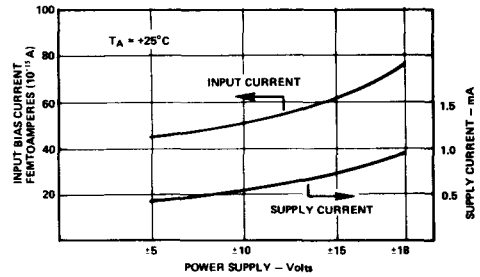

Figure 8. Input Bias Current and Supply Current Versus Supply Voltage
- The heat dissipation can be reduced initially by careful investigation of the application. First, if it is possible to reduce the required power supplies, this should be done since internal power consumption contributes the largest component of self-heating. To minimize this effect, the quiescent current of the AD515 has been reduced to a level much lower than that of any other electrometer-grade device, but additional performance improvement can be gained by lowering the supply voltages, to  $\pm 5$  volts if possible. The effects of this are shown in Figure 8, which shows typical input bias current and quiescent current versus supply voltage.